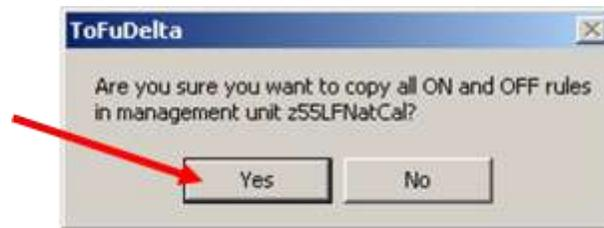

Fig. 6-13. Verify that you want to copy all rules.
- Verify that you want to copy all On and Off rules by clicking Yes (fig. 6-13).